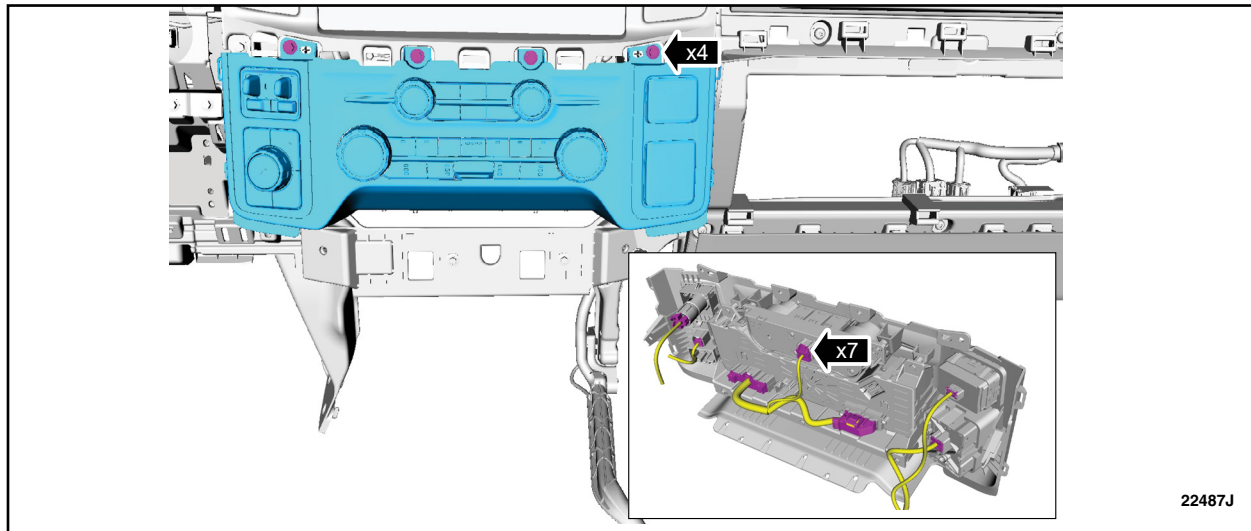

FIGURE 9
11. Remove the bolts, disconnect the electrical connectors and remove the Front Controls Interface Module (FCIM). See Figure 9.